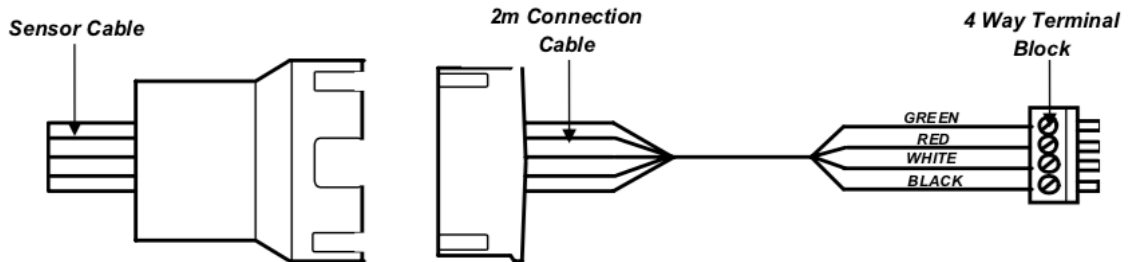

Figure 58: Personnel sensor 4-way terminal block
3. Plug the 4-way terminal block into the Auto Sash Control Unit (Figure 58). See the wiring schematic in section 6.9 and Figure 58.